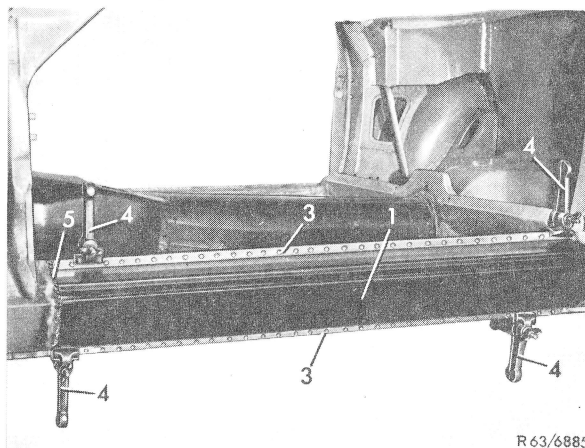

Figure 2
- 5 Drill 8 mm dia. holes in both flanges (3) of outer shell (1) 50 mm apart (Fig. 2).
- 7 Attach new outer shell (1) to inner shell with hand vices (4), align and tackweld (Fig. 2).